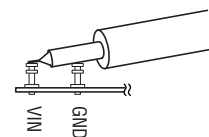

Figure 2. Measuring Ripple
**NOTE:** When measuring the input or output voltage ripple, care must be taken to avoid a long ground lead on the oscilloscope probe. Measure the input or output voltage ripple by touching the probe tip directly across the Vin or Vout and GND terminals. See Figure 2 for proper scope probe technique.